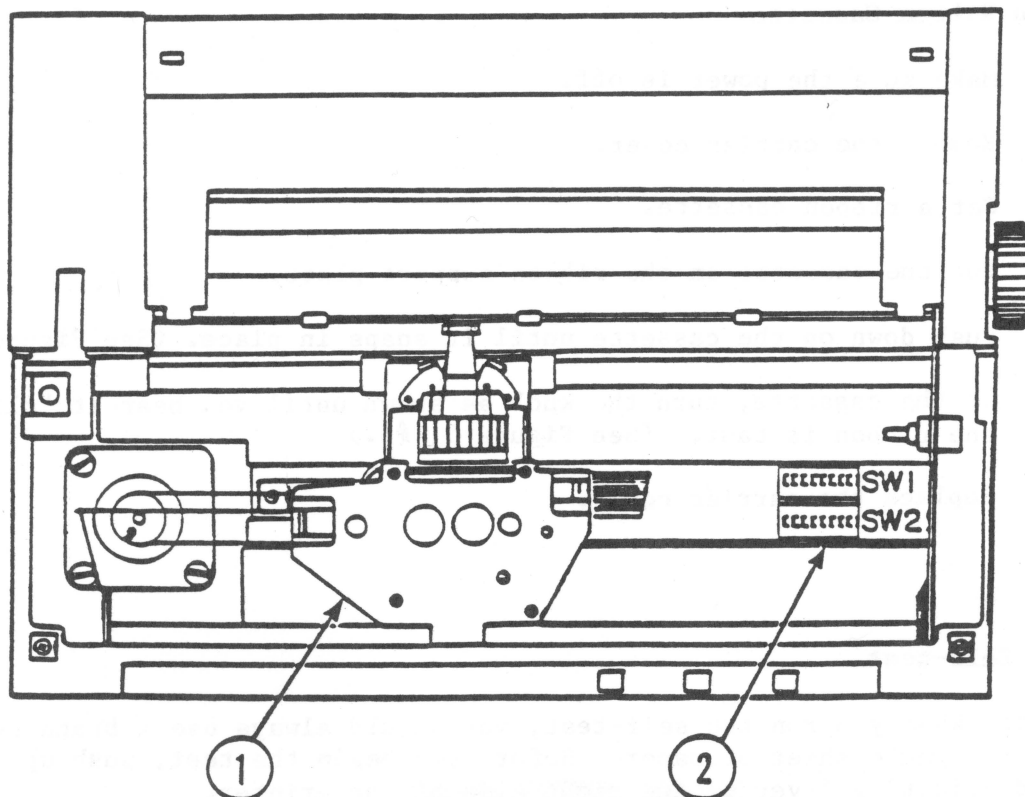

FIGURE 6
3. Slide the carrier all the way to the left. (See Figure 6, #1.)
4. Locate switches SW 1 and SW 2. (See Figure 6, #2.)